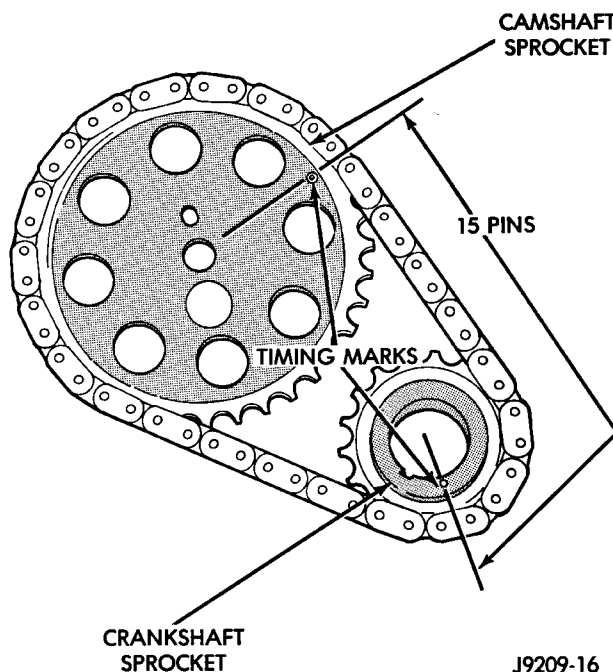

Fig. 44 Verify Sprocket—Chain Installation—Typical
Assemble the timing chain, crankshaft sprocket and camshaft sprocket with the timing marks aligned (Fig. 44).
(3) To verify correct installation of the timing chain, turn the crankshaft to position the camshaft sprocket timing mark as shown in (Fig. 44). Count the number of chain pins between the timing marks of both sprockets. There must be 15 pins.